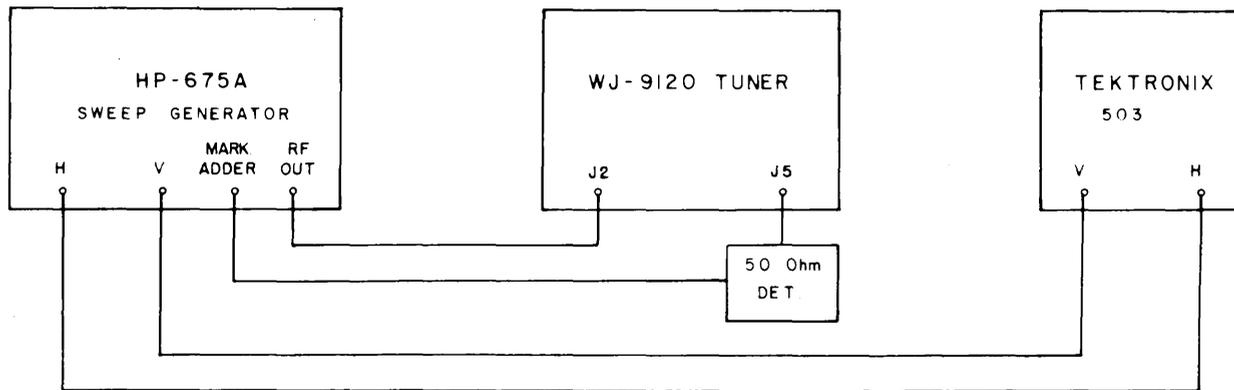

Figure 4-16. Equipment Connection, Overall Gain Adjustment (Low Band)
- (1) Connect power for low band operation (Figure 4-2) and connect the test equipment as illustrated in Figure 4-16.
- (2) Set the sweep generator to sweep 2 MHz about a center frequency of 1 MHz and rotate the tuning shaft to center the response curve on the oscilloscope.
- (3) Set the gain reference by connecting the detector to the sweep generator RF output and increase the output to 0 dBm (the trace amplitude is the +17 dB reference). Increase the output level +6 dBm (the trace amplitude at this output level is the +23 dB reference).